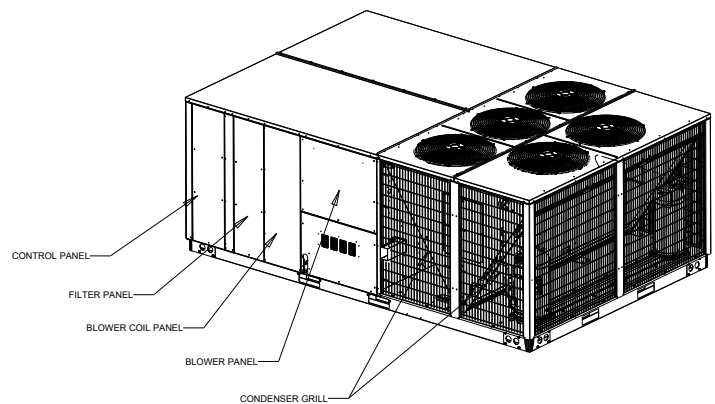

FIGURE 27
2. Remove the Control, Filter, Blower Coil, Blower panels, and Condenser Grills or Hail Guard. See Figure 27 & 28.